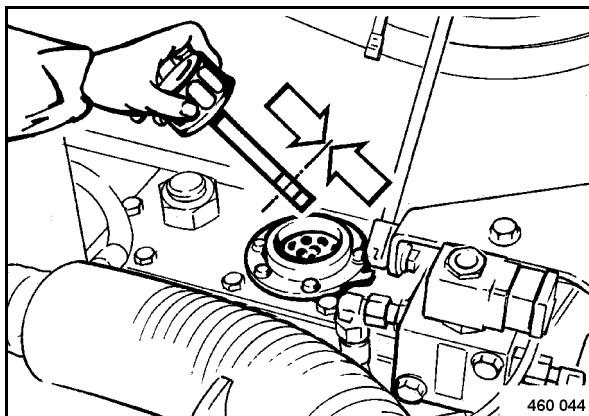

Fig. 80
- Check the oil level in the inspection glass. The oil level must be between the "MIN" and "MAX" marks (Fig. 80).